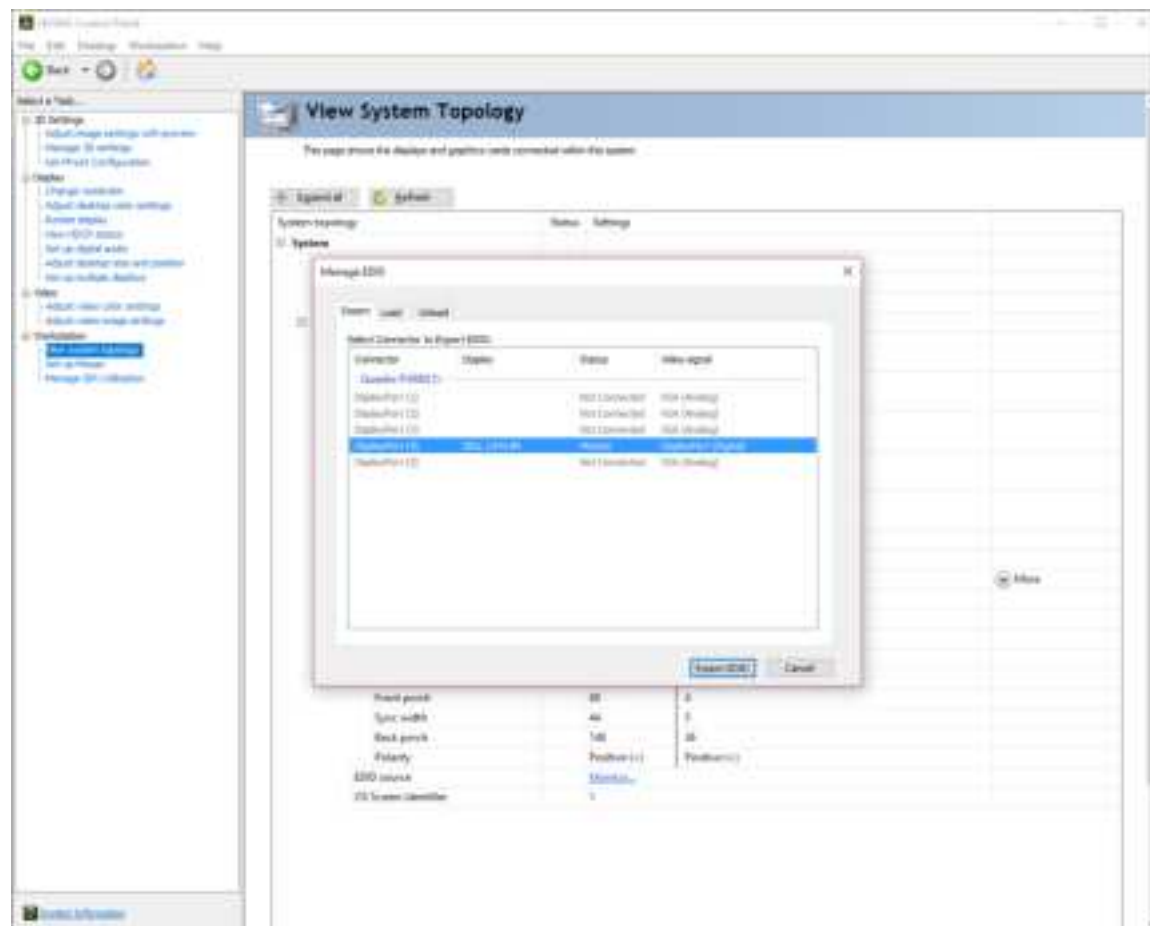

Figure 4
1. To export EDID from a display, select an active display and the Export tab (figure 4).